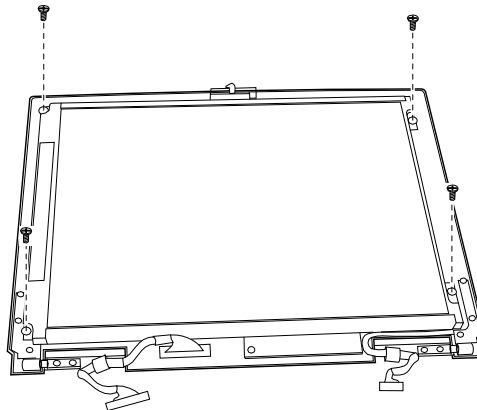

Figure 5-22. Removing the Flat Panel Screen
1. Reconnect the cables to LCD. Fit the LCD back into place and secure with four screws.(fig 5-22)